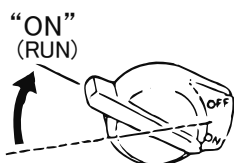

Fig. 14
2. Turn the stop switch to "ON (I)" position. (Fig.14)